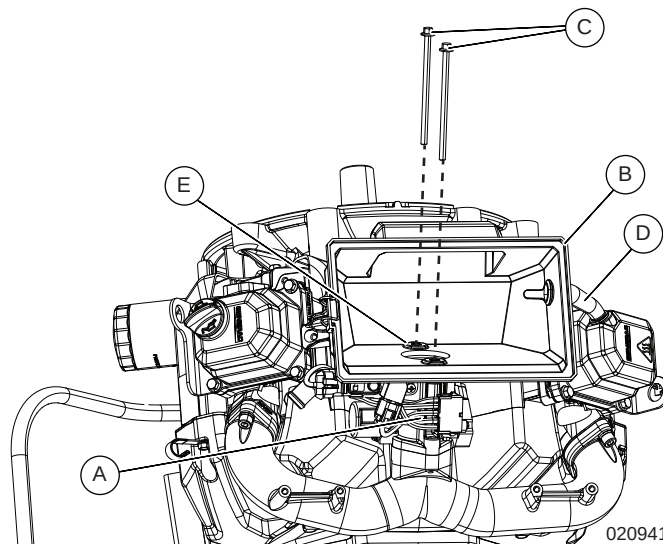

Figure 12-28. Install Air Box
1. See Figure 12-28. Place two intake manifold gaskets (C) onto cylinder heads (one on each intake port).